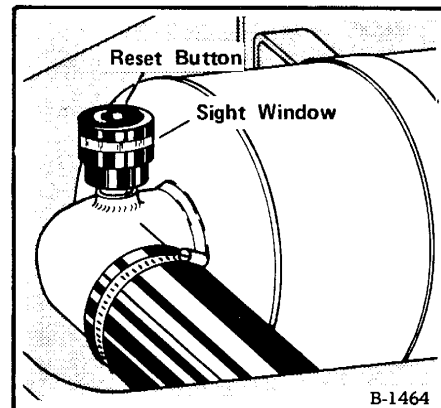

Fig. 11 Condition Indicator
2. Check the Condition Indicator on the engine air cleaner (Figure 11). If the red ring appears in a viewing window, replace filter element (See Air Cleaner Service, page 12). Check filter can for any damage which could provide access for unfiltered air. Check inlet hoses for breaks and clamps for tightness. Make repairs or adjustments immediately to eliminate the resultant possibility of more costly repairs.